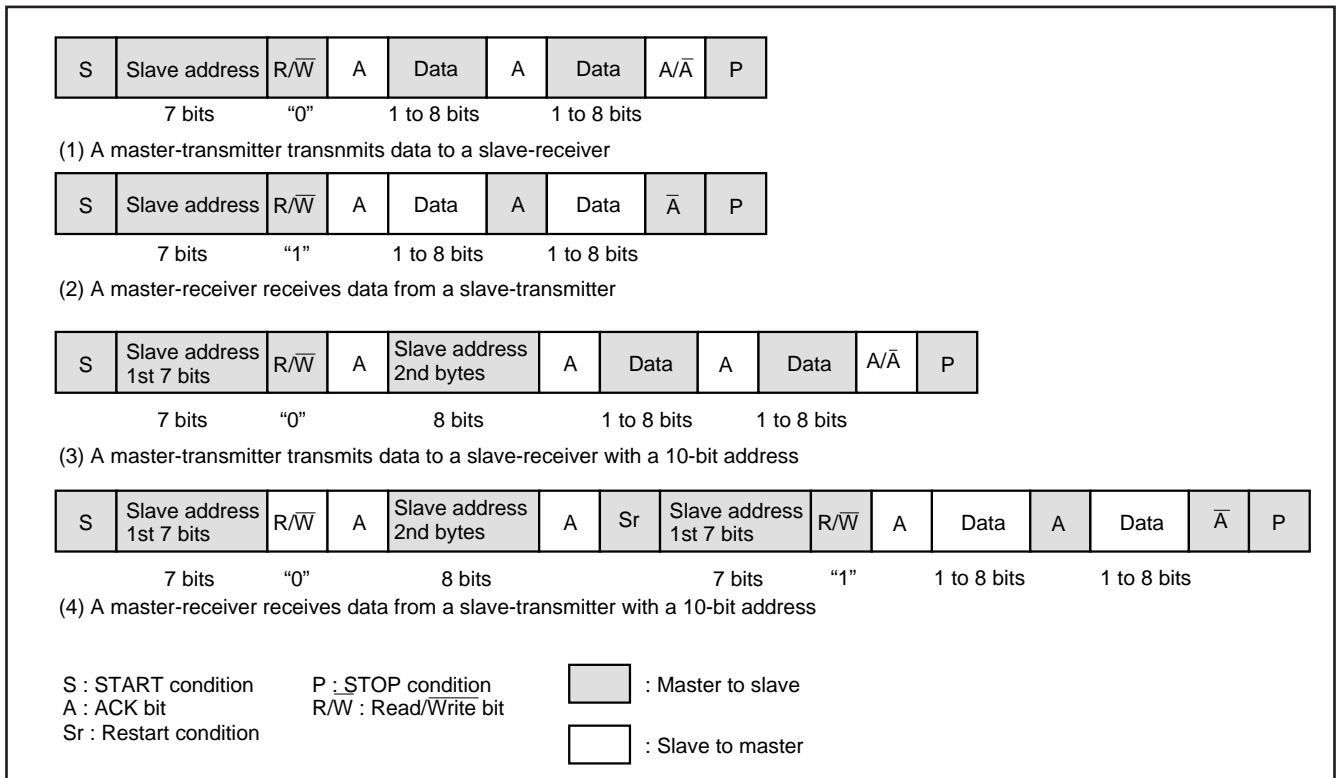

Fig. 31 Address data communication format
To adapt the 7-bit addressing format, set the 10BIT SAD bit of the I2C control register (address 002E16) to "0." The first 7-bit address data transmitted from the master is compared with the high-order 7-bit slave address stored in the I2C address register (address 002C16). At the time of this comparison, address comparison of the RWB bit of the I2C address register (address 002C16) is not performed. For the data transmission format when the 7-bit addressing format is selected, refer to Figure 31, (1) and (2).
When the first-byte address data agree with the slave address, the AAS bit of the I2C status register (address 002D16) is set to "1." After the second-byte address data is stored into the I2C data shift register (address 002B16), perform an address comparison between the second-byte data and the slave address by software. When the address data of the 2 bytes agree with the slave address, set the RBW bit of the I2C address register (address 002C16) to "1" by software. This processing can make the 7-bit slave address and R/W data agree, which are received after a RESTART condition is detected, with the value of the I2C address register (address 002C16). For the data transmission format when the 10-bit addressing format is selected, refer to Figure 31, (3) and (4).